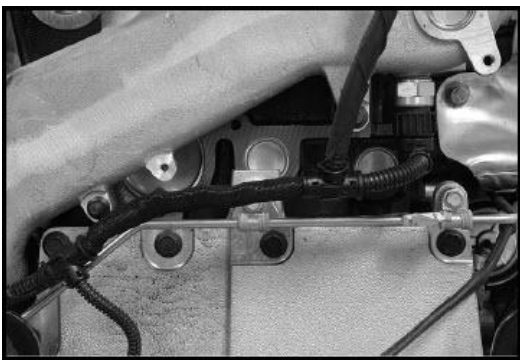

Figure 6: Splices Wrapped With Twist Tube
20. Install twist tube wrap over completed splices (*Figure 6*).